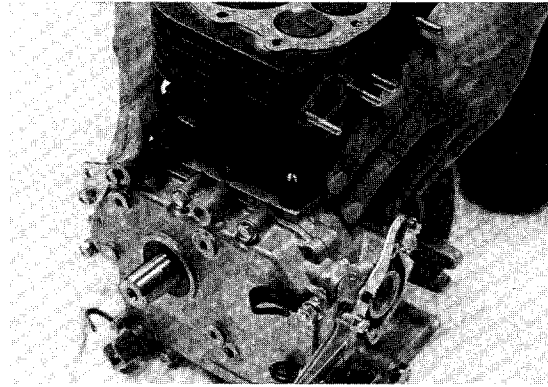

Figure 6-23
4. Carefully lower cylinder down onto piston as far as top ring, compress ring with thumbs and lower cylinder over top ring (Figure 6-23).
6. Install flat washers (17) and nuts (59), turn finger tight, tighten in criss-cross sequence to 25-29 ft-lbs. torque.